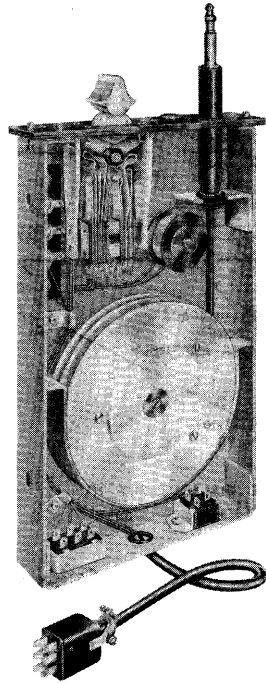

Fig. 7—J59024B—Intercept and Dial Cord Unit
2.15 Each cord unit (Fig. 7) is a single circuit-type employing cord reels, and is enclosed in a sheet metal box 5-3/8 inches high, 1 inch wide, and 8-1/2 inches long. Each cord unit contains all required apparatus: cord reel, a cord approximately 8-foot long with plug, a key unit, inductor or lamp socket, and jacks and plugs as required. The cord units are set into the space between the lamp rail and the writing shelf at a 35° angle and are wired in series. Each cord unit is separated from the adjacent unit by a 3/4-inch spacer. The administrative station line cord units are equipped with a combined line and supervisory lamp.